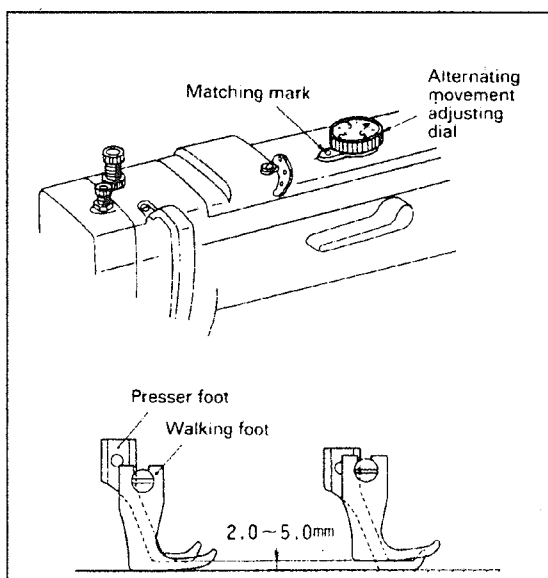

Fig.29
1) Adjustment of alternating movement (Fig.29):